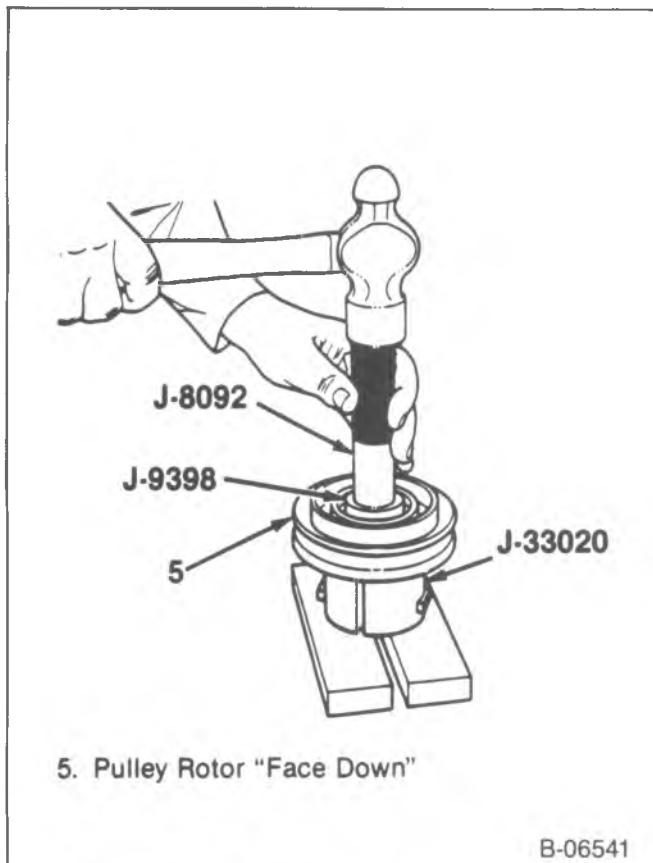

Figure 11—Removing the Pulley Bearing
- Pulley bearing (4) from the pulley (5) using J-9398-A and J-8092 (figure 11).
- Remove the forcing screw from J-33020 and with the puller tangs still in place in the pulley slots, turn the assembly upside down onto a flat surface (figure 11).
- When removing the old pulley bearing (5) allow the staking to remain, then file away the old staked metal for proper fit when installing a new bearing (5) in the pulley bore.